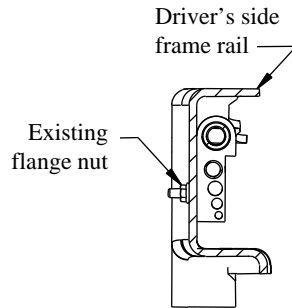
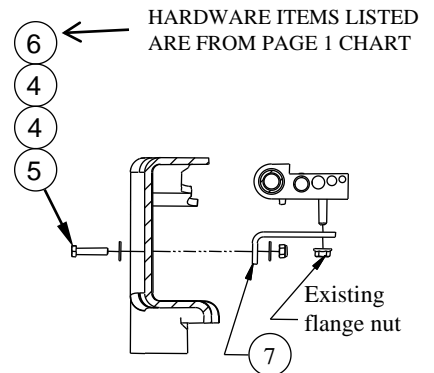

Figure 6B
Figure 6C
2. **On 2005 to 2010 Gas Engine Vehicles Only.** The vapor tube running along the inside of the driver's side frame rail must be relocated prior to installing the driver's side bracket. See Figure 6a on the previous page. Remove the flange nut from the outside of the frame and keep for later use. See Figure 6b. Rotate the tubes up and out of the way. Install the L-bracket (7) with 1/4" hardware(4)(5)(6), as shown in Figure 6c. Tighten the L-bracket (7) to the frame, but leave the tube holder loose to aid bracket installation.